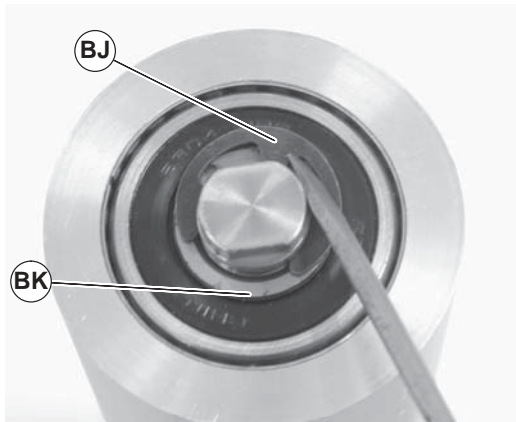

Figure 48
5. Remove the pulley shaft assembly: remove the clip ring (Figure 48, item BJ) and washer (BK) from one side of the pulley assembly.